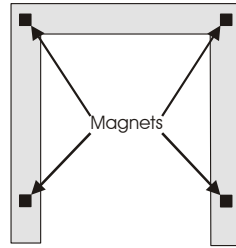

Figure 24
2. The trim is held on by four magnets. These will either be attached to the trim or supplied loose in a separate envelope. Space them as shown in **Figure 24**.